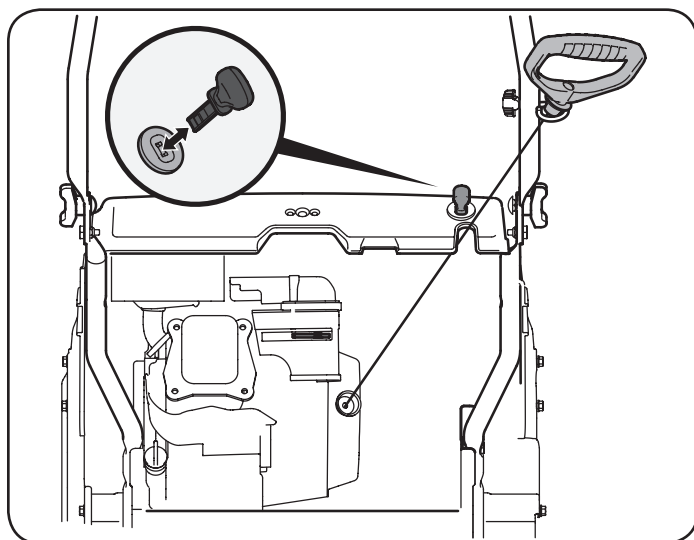
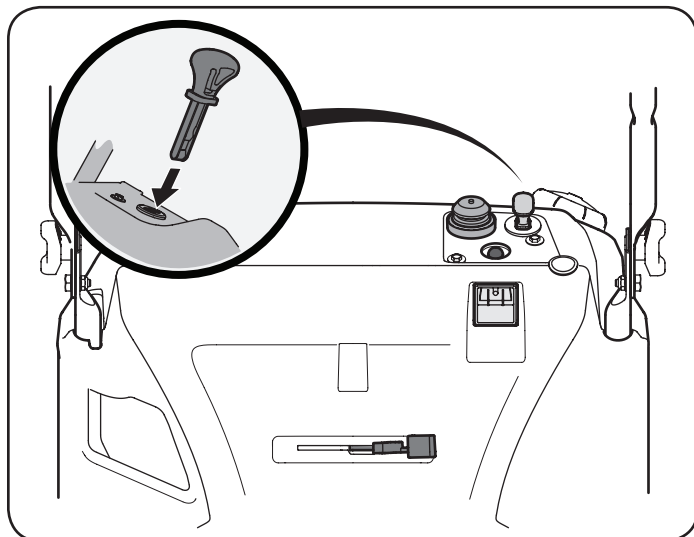

Figure 2
Figure 3
2. Insert ignition key into slot. Make sure it snaps into place. Do not attempt to turn the key. See Figure 2 for model 247.11683* and see Figure 3 for model 247.88780*.
2. Insert ignition key into slot. Make sure it snaps into place. Do not attempt to turn the key. See Figure 3 for model 247.88780*.